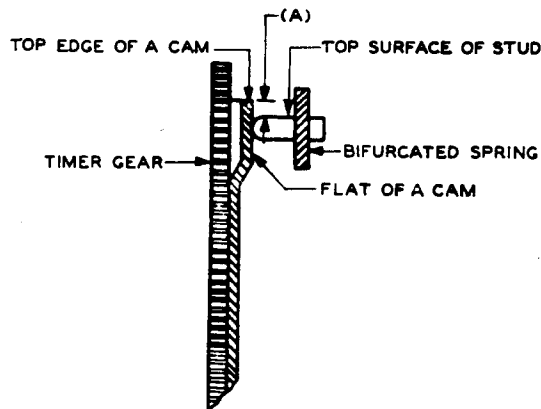

Fig. 15 - Bifurcated Spring Position
- (1) "A" Cam Bifurcated Spring: Fig. 15(A) - With the timer gear rotated so that the stud on the bifurcated spring rests on the flat of the cam, the top surface of the stud shall be 0.015 inch (± 0.015 inch) below the top edge of the cam.